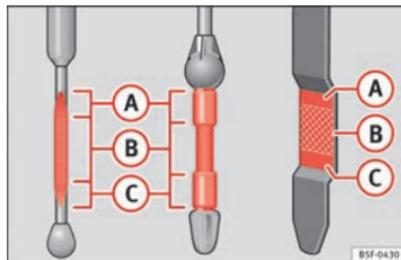

Fig. 159 Engine oil dipstick.
- Then pull it out once more and check the oil level ⇒ Fig. 159. Top up with engine oil if necessary.